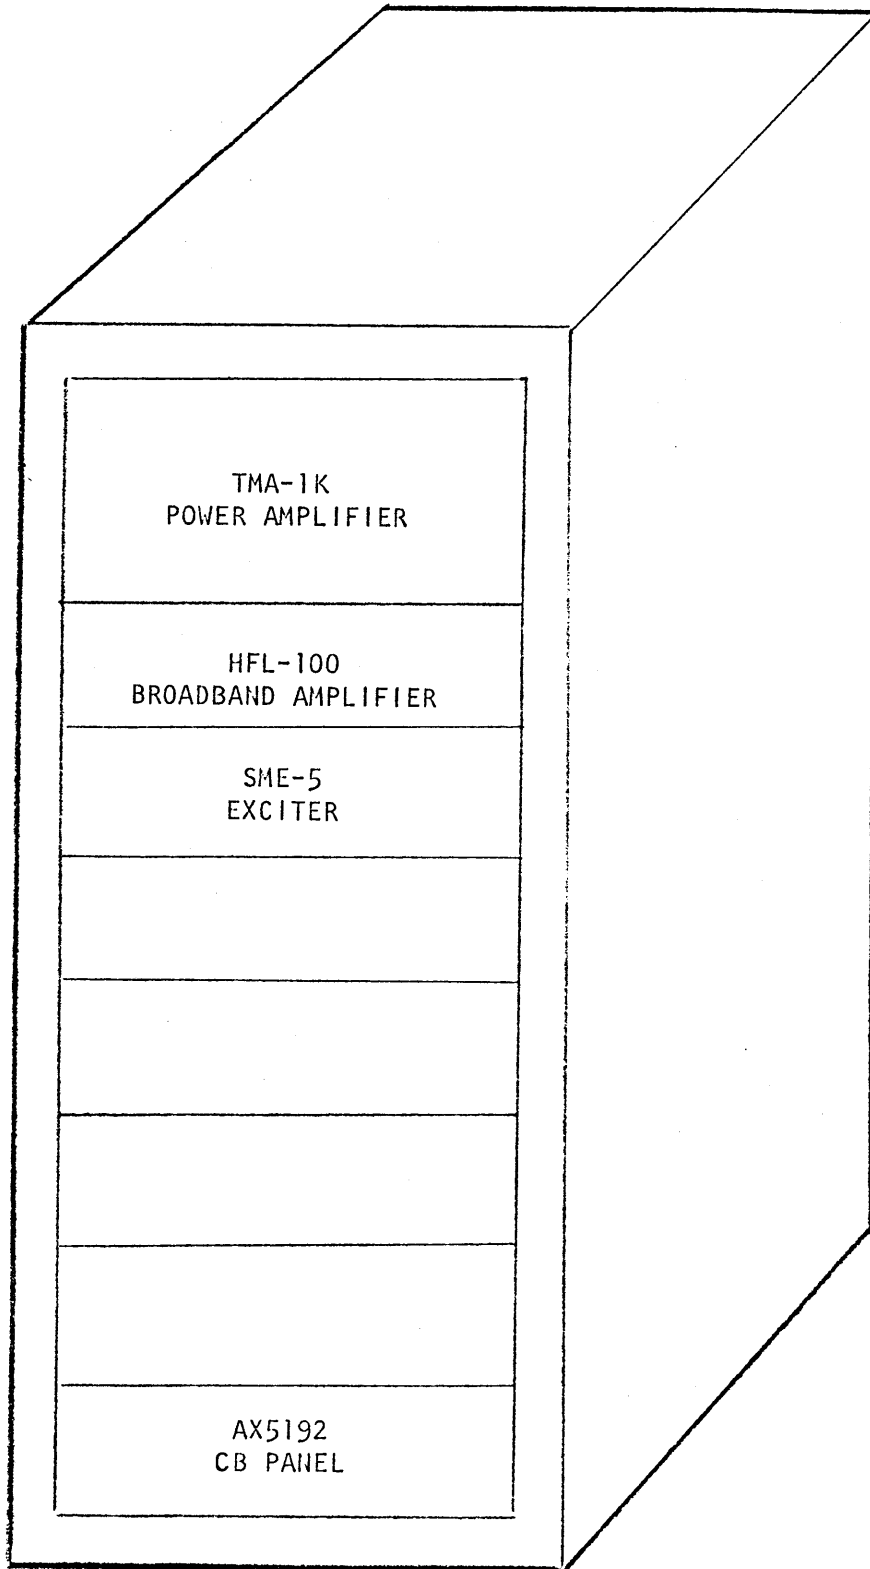

Figure 2-1. Modular Component Location
b. UNIT INSTALLATION. The tracks for the slide mountings which support the modular components of the transmitter are already mounted in the cabinet. It is therefore, a simple task to slide the units into the correct position as shown in figure 2-1.